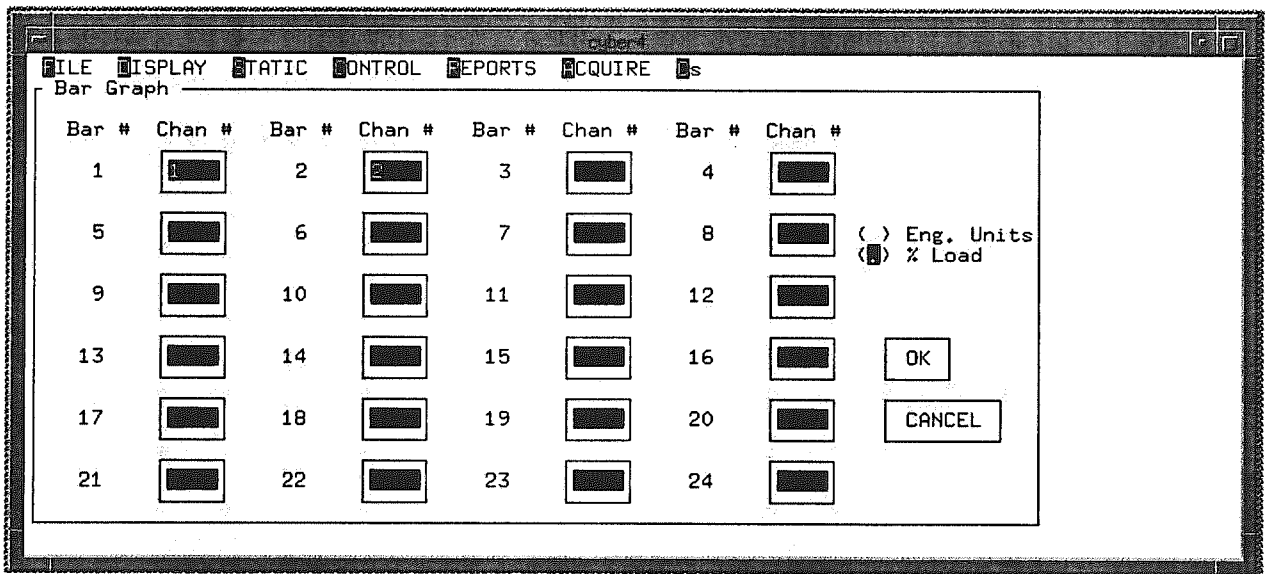

Figure 12-5 Dialog Box used to Setup the Bar Graph Display
Step 1) Select **Graphs**, **Bar Graphs** option. The dialog box illustrated in **Figure 12-5** is displayed.